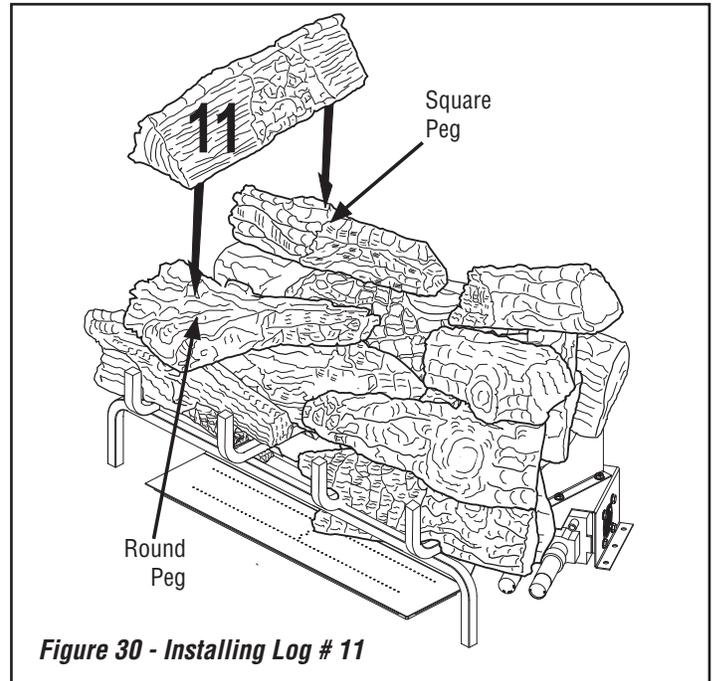

Figure 30 - Installing Log # 11
11. Place the left top log (#11) on top of the left back top log (#5) and left top forked log (#6) as shown in **Figure 30**. Match the round peg on the top of the left top forked log (#6) with the round hole on the bottom of the top left log (#11) and rectangular peg on the top of the left back top log (#5) with the rectangular hole on the bottom of the top left log (#11).